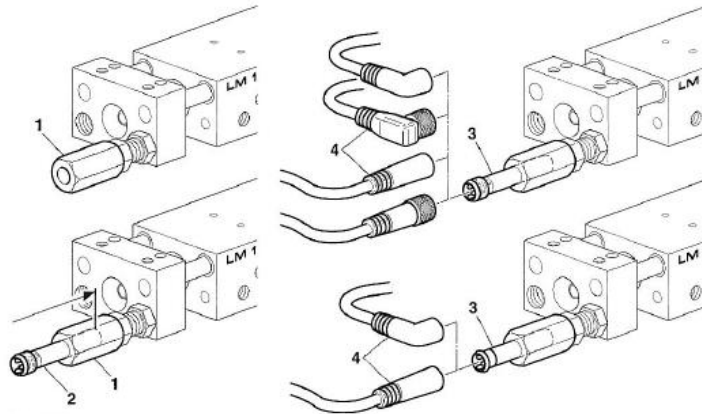

Fig. 12 Mounting initiator 6.5 mm
1. Screw the initiator holder (Fig. 12, 1) onto the stop screw.
2. Insert the initiator (Fig. 12, 2) into the initiator holder as far as it will go.
3. Slightly tighten the initiator holder (Fig. 12, 1).
4. Mount the connector (Fig. 12, 4).